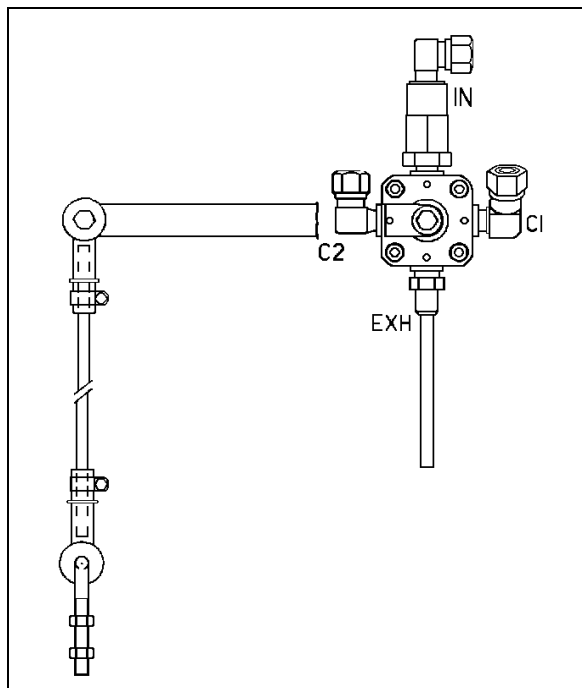

FIGURE 53: REAR HEIGHT CONTROL VALVE 16093
2. Loosen the clamp on the height control valve rubber coupling and bring it up or down (Fig. 53).